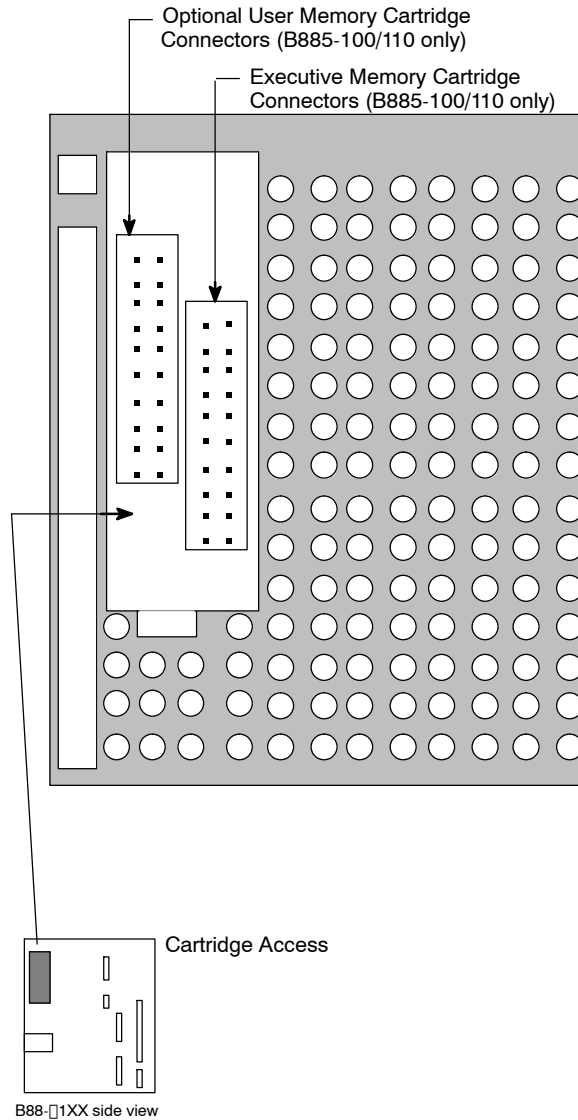

Figure 16 Cartridge Access
Step 25 For B885-100 or B885-110, that uses memory Cartridge(s), insert either the Standard Executive (part number AS-EM85-000) or Enhanced Executive (part number AS-EM85-302) into the connector. If using the optional User memory cartridge (part number AS-ME85-000) insert into the left connector. Refer to Figure 16.